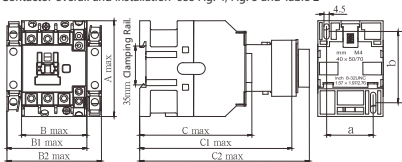
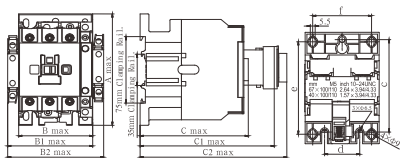

Fig. 4 YCC6-09~38
Fig.5 YCC6-40~95
- Contactor overall and installation see Fig. 4, Fig. 5 and Table 2